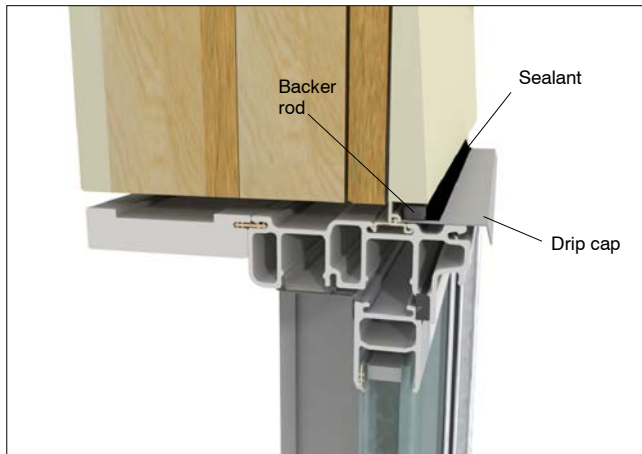

Figure 11: Apply perimeter sealant between window and exterior finish
*NOTE: Sash must be raised at least 1" (25) before tilting.*
2. After exterior finish or siding is installed, apply sealant around the exterior perimeter of the unit frame or casing. As needed, insert backing material between the frame or casing and the structure to provide a proper sealant joint. Sealant depth must be equal to width between unit and exterior finish material (brick and masonry apply). Always refer to the manufacturers' recommendations for proper surface preparation and application. See figure 11.